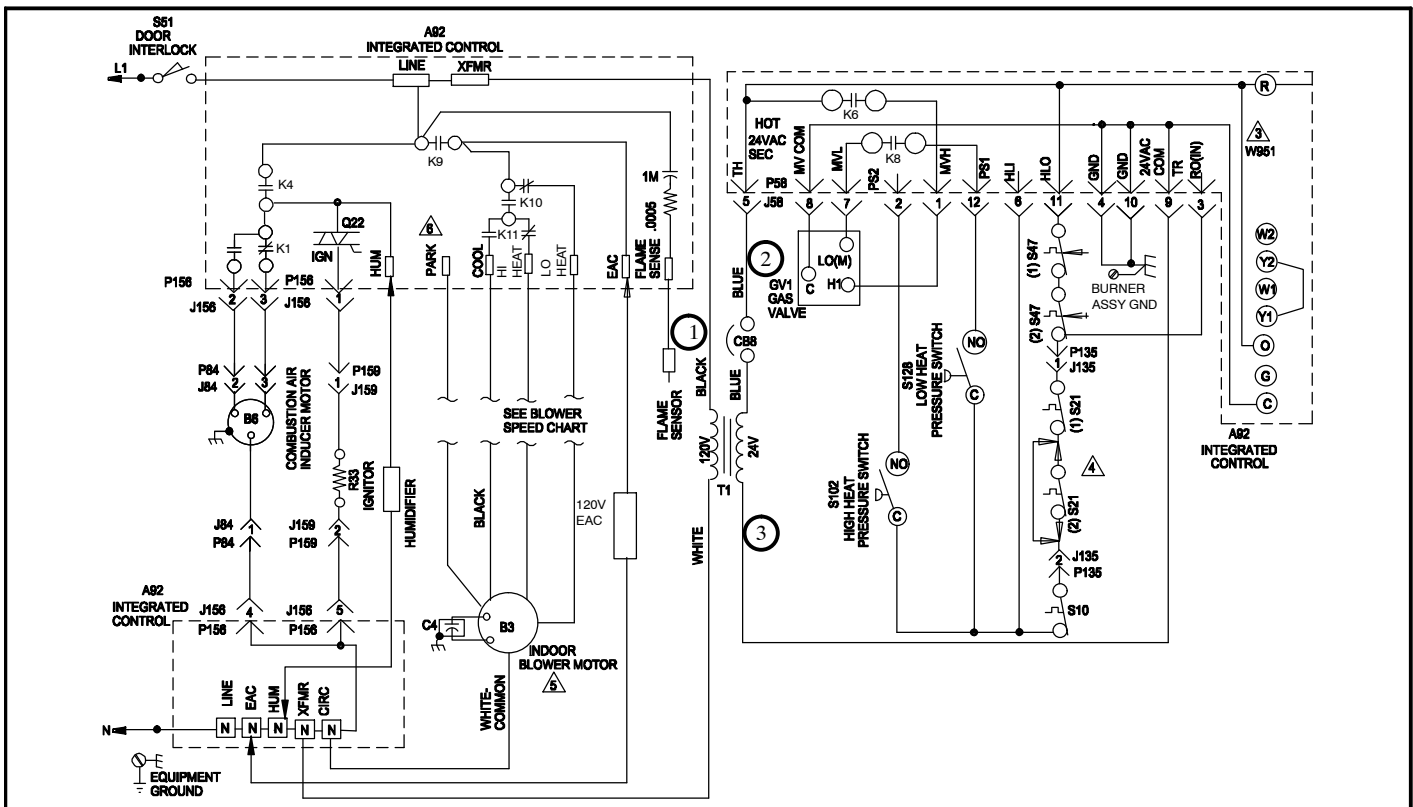

Figure 1 Transformer Replacement
8. Replace the 40VA transformer in the furnace or blower coil, with the 75VA transformer provided with the economizer. See figure 1 and follow the steps below: